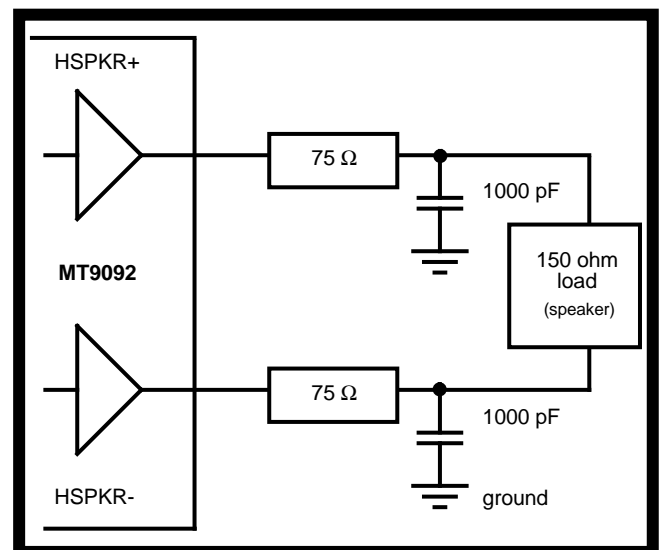

Figure 5- Handset Speaker Driver
- ◆ The handset speaker outputs (receiver), pins HSPKR+/HSPKR-. This internally compensated, fully differential output driver is capable of driving the load shown in Figure 5. This output is enabled/disabled by the HSSPKR EN bit residing in the Transducer Control Register (address 0Eh). The nominal handset receive path gain may be adjusted to either -12.3dB (suggested for  $\mu$ -Law) or -9.7dB (suggested for A-Law). Control of this gain is provided by the RxA/ $\bar{u}$  control bit (General Control Register, address 0Fh). This gain adjustment is in addition to the programmable gain provided by the receive filter and DSP.